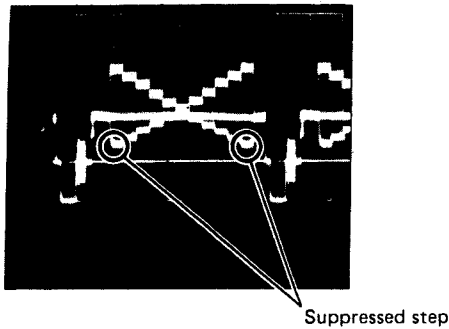

Fig. 5-6-10
- o Trigger the oscilloscope at H rate. (Use TP9 (BL), Deflection board.)
- o Adjust VR21 (LEVEL DEPENDENT) so that the noise on the black chip (zero step) of the gray scale waveform is suppressed. (Fig. 5-6-10)